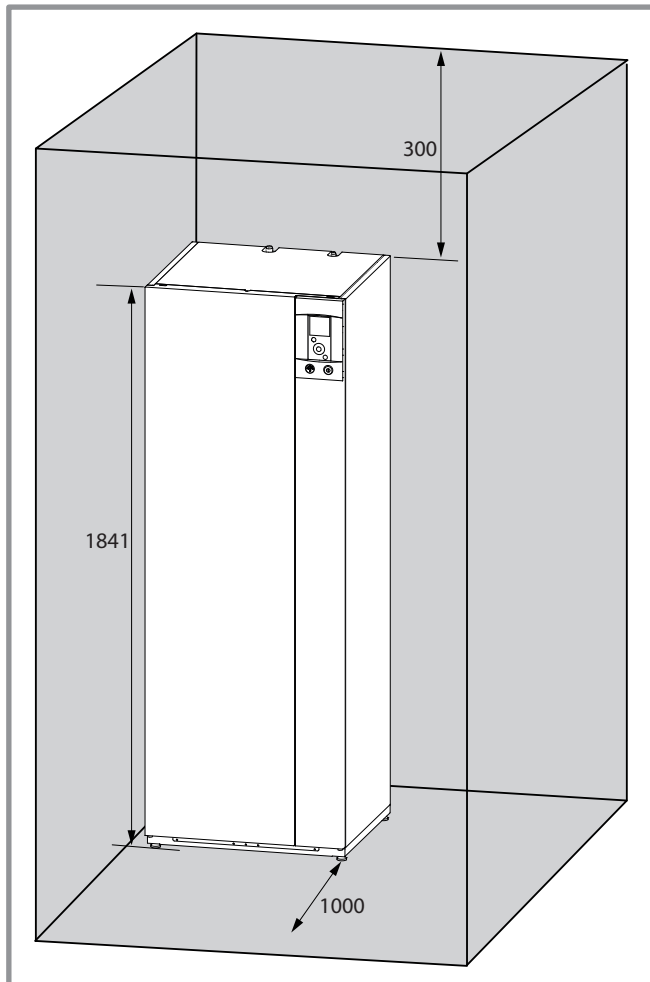

figure 15 - Minimum installation clearances around the hydraulic unit and distances away from fuel storage areas
- To facilitate maintenance and to allow access to the various components, we recommend that you provide sufficient space all around the hydraulic unit (figure 15).